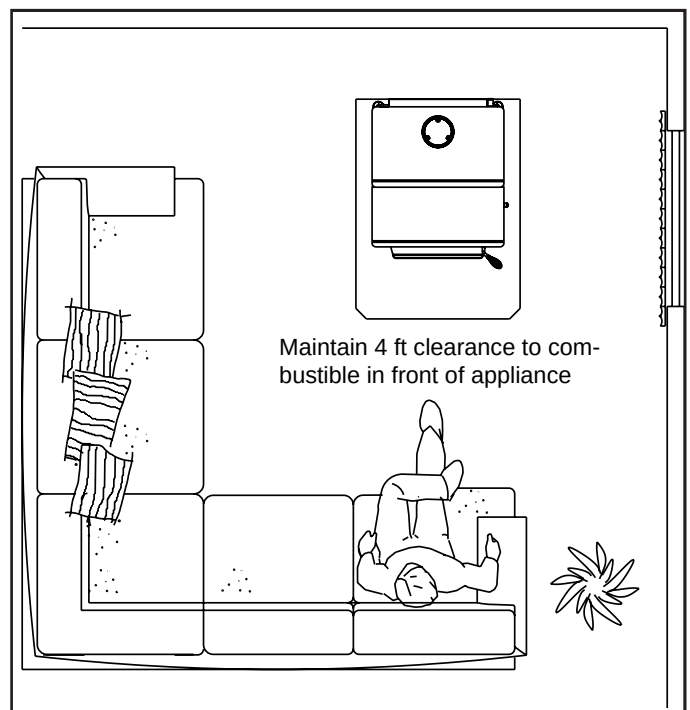

Figure 15.3
- Do NOT place combustible objects within 4 ft (1.2 m) of the front of appliance. See **Figure 15.3**.